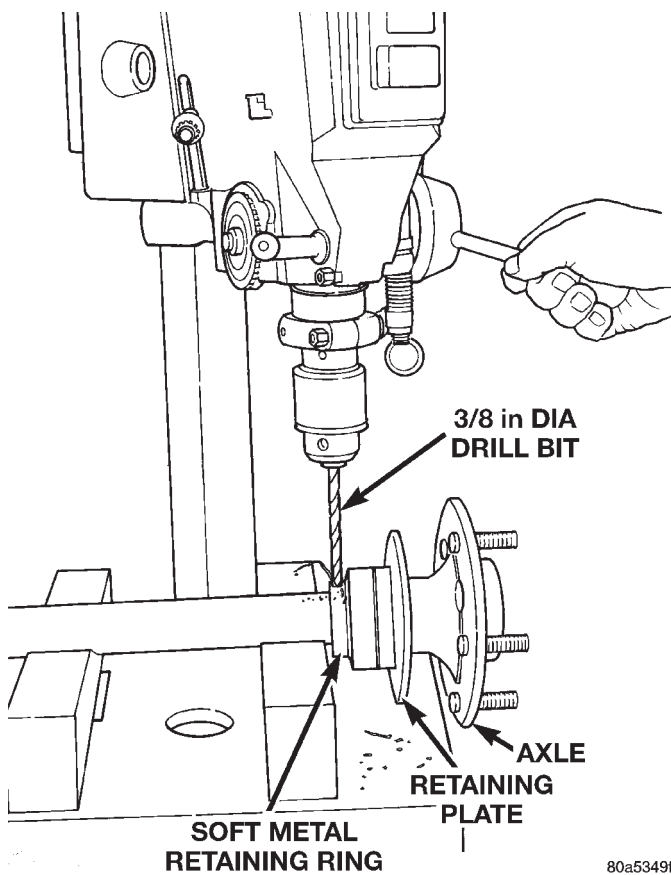

Fig. 12 Drill Retaining Ring
- (1) Remove axle shaft from vehicle.
- (2) Using a 3/8 in. dia. drill bit, drill a shallow hole into soft steel axle bearing retaining ring (Fig. 12). If possible, use a drill depth stop to avoid marking axle.